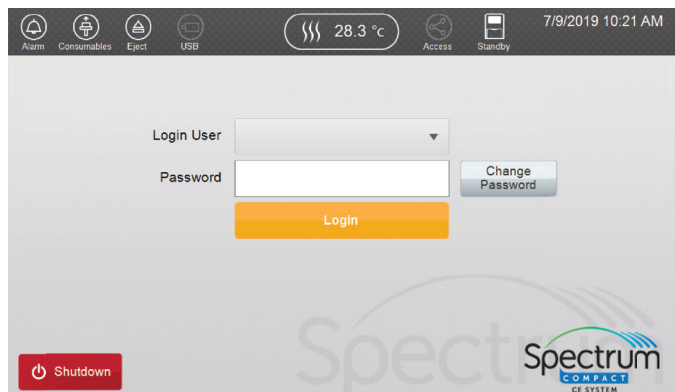

Figure 183. 'Login' screen.
1. Select **Logout** in the footer of the 'Main Menu' screen (Figure 182) of the Spectrum Compact Control Software. A confirmation window will appear asking "Are you sure you want to log out?". Select **Yes** to proceed to 'Login' screen (Figure 183). Select **No** to return to the 'Main Menu' screen (Figure 182).
2. Select **Shutdown** in the 'Login' screen (Figure 183).